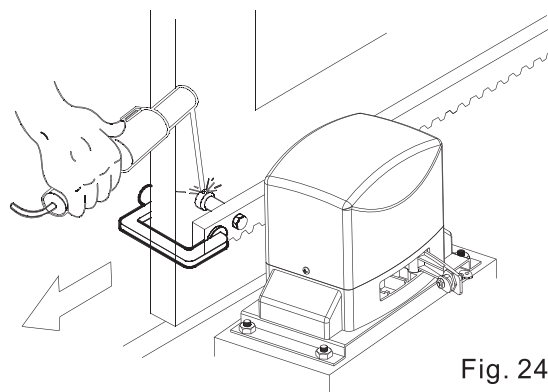

Fig. 24
- 3) Lay the first piece of rack at appropriate level on the pinion and weld the threaded spacer on the gate as shown in Fig. 24.